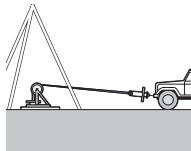

Fig 1.15
- 1.3.2.14 Drive the vehicle slowly forward, thereby lowering the pump under its own weight (Fig. 1.15) until the second clamp reaches the well-head roller. To avoid excess cable slack which may subsequently contact the casing, DO NOT ATTACH THE POWER CABLE TO THE RISER OVER THE CLAMP.